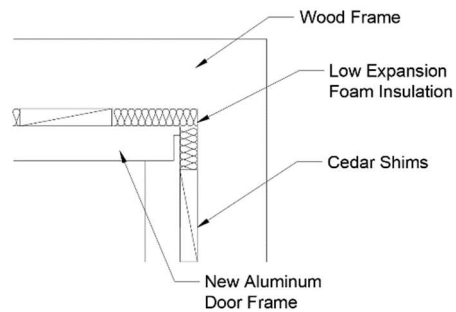

Figure 4
4.1 Important: Careful caulking will prevent leakage. Run a 1/2" bead of caulking down each side of the underside of the inside part of the sill. Caulk the full length of the joint of the sill and header at each of the jambs. Place a generous spot of caulking over each screw holes in the sill. Slip the assembled frame into the prepared opening making sure that the sill slopes down to the outside. Using the wooden shingles behind the frame at each of the screw holes and guided by a carpenter's level and square, square the jambs and header to the level sill. Use the #10 x 1/4" countersunk screw (#4) to fasten down the sill. If the sill is concrete, make 1/4" holes in the concrete at every installation screw hole using a 1/4" concrete drill bit. Insert the 10 x 12 x 1 (#5) anchor plugs and then use the 10 x 1 1/4" (#4) countersunk screws. Apply generous silicone sealant into sill installation holes, prior to fastening the #10 x 1 1/4" countersink screws. Make certain that the frame remains square until it is firmly fastened. Fill insulation firmly into any space between the aluminum frame and the wood opening frame to prevent drafts. See figure 4.